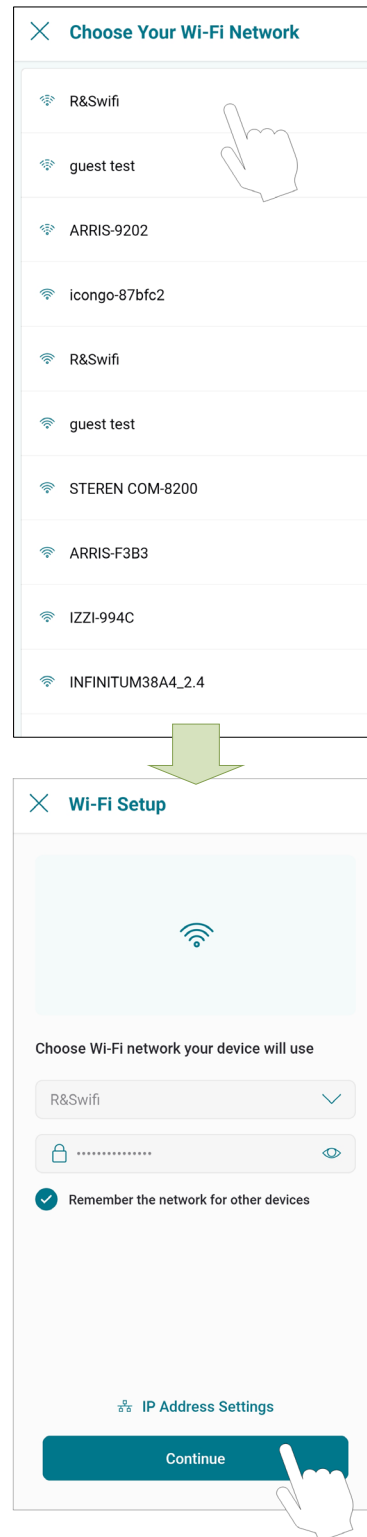

Figure 118. Wi-Fi Setup
7. The "Wi-Fi setup" screen will appear. Select or enter the Wi-Fi network you want your unit to be connected to and enter the network password. See **Figure 118**.